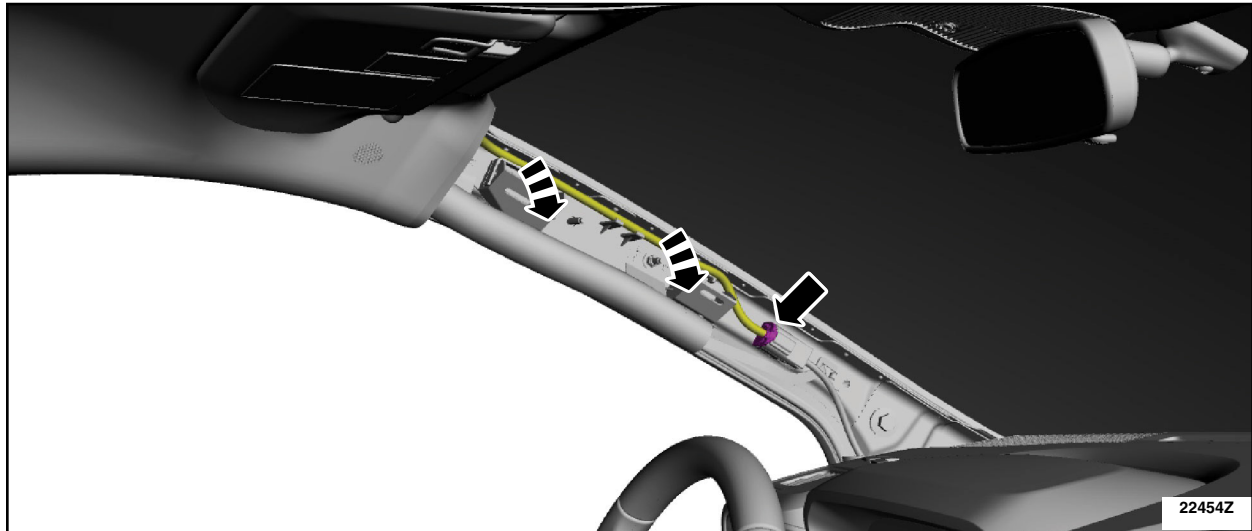

FIGURE 8
11. On the LH side disconnect the headliner wiring harness electrical connector, release the headliner wiring harness from the A-pillar and position the headliner wiring harness aside. See Figure 8.